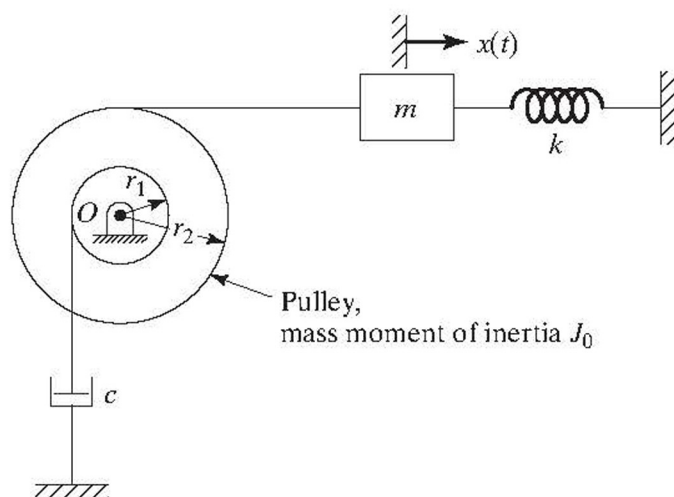

FIGURE 2.113
**2.119** The system shown in Fig. 2.113 has a natural frequency of 5 Hz for the following data:  $m = 10 \text{ kg}$ ,  $J_0 = 5 \text{ kg}\cdot\text{m}^2$ ,  $r_1 = 10 \text{ cm}$ ,  $r_2 = 25 \text{ cm}$ . When the system is disturbed by giving it an initial displacement, the amplitude of free vibration is reduced by 80 percent in 10 cycles. Determine the values of  $k$  and  $c$ .